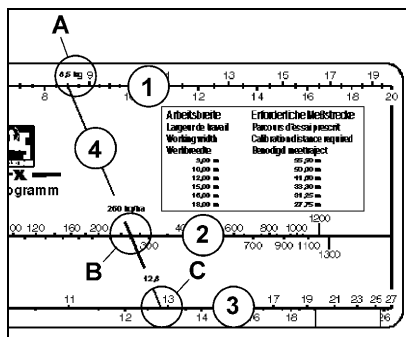

Fig. 35
- For the collected fertiliser quantity (**8,5 kg**) read off the figure (Fig. 35/A) on the upper scale (Fig. 35/1) and for the desired spread rate (**260 kg/ha**) read off the figure (Fig. 35/B) on the centre scale (Fig. 35/2). Place a straight connecting line (Fig. 35/4) between points **A** and **B** (Fig. 35/4). The extension of this connecting line (Fig. 35/4) shows on the lower scale (Fig. 35/3) the Figure (Fig. 35/C) for the required shutter position, here „12,8”.